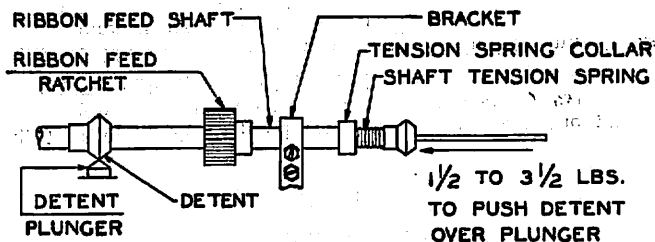

Fig. 27
4.44 Ribbon feed shaft detent plunger spring shall so press the plunger against the detent that it requires a force of min. 1-1/2 lbs., max. 3-1/2 lbs. to push the detent over the plunger as in Fig. 27 when the ribbon feed and check pawls are held clear of the bracket.